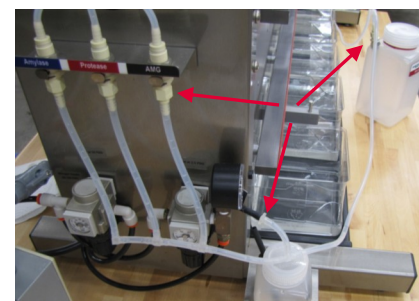

Figure 3
3. Remove the enzyme containers on the left side of the instrument. Disconnect the HCL container. Store or dispose of fluids properly. Attach the three connectors on left side of the Line Flush Tubing Assembly to the Enzyme lines. Also connect the short tube (with no connector) to the barbed fitting on the black HCL line. See Figure 3. Also, connect the fitting at the middle of the Tubing Assembly to the 78% Ethanol Container.